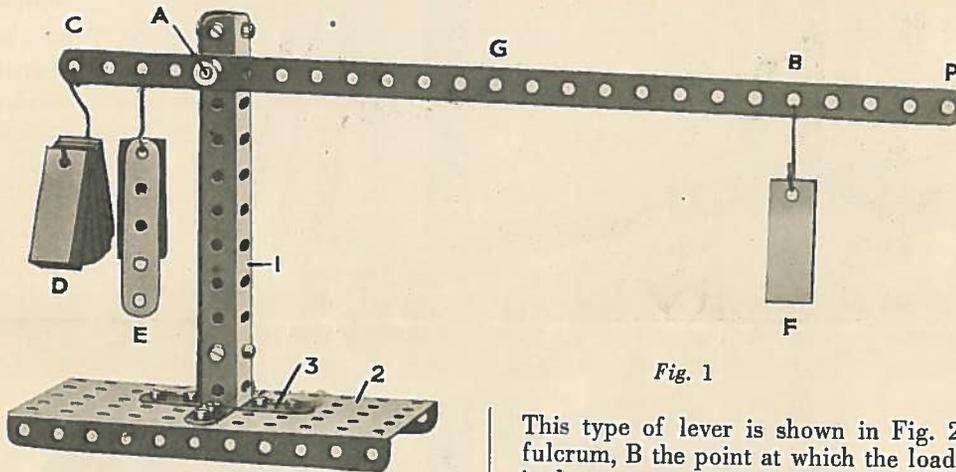

Fig. 1
A lever of the first order is illustrated in Fig. 1. The up-
The upright column (1) in this example is constructed in a similar manner to that shown in Fig. 1, but in this case the Girders are $9\frac{1}{2}"$ in length. The Pulley (2) runs freely on a short axle, and is held in place by a Collar (3). A $12\frac{1}{2}"$ Strip represents the lever, and pivots about a short axle journalled in a Fork Piece (4) carried from a Coupling (5) which may be secured by its set-screw in any position on the Rod (6). The latter passes through the upright Girders (1) and is secured in Cranks (7).